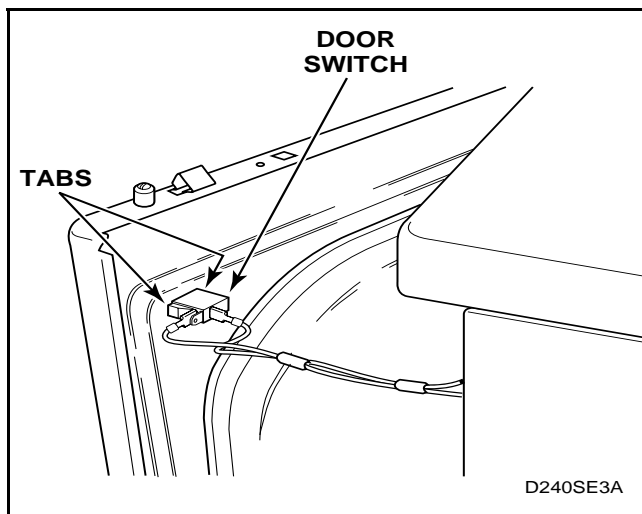

Figure 12
- d. Disconnect wires from door switch. See Figure 12.
- e. Depress tabs on switch and push out of front panel. See Figure 12.